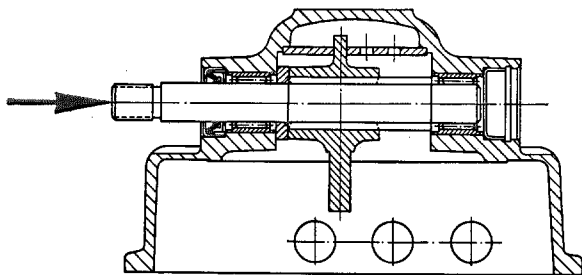

Fig. 26 — 4/5
10. Remove the snap ring in front of the end cover. Use a suitable drift to drive out the shifting shaft in the direction of the end cover, removing the end cover at the same time (Fig. 26 — 4/5). Remove the washer and the shifting finger.